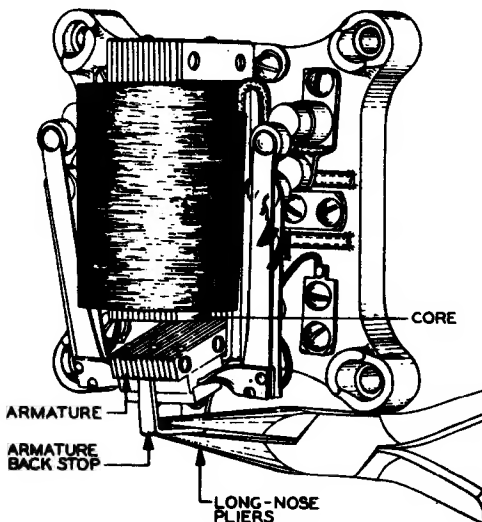

Fig. 10 - Method of Adjusting Armature Back-stop - Using Long-nose Pliers
(1) If a gauge of conducting material is used, the contacts must be dead while checking gap. Contact gaps and armature air gaps of relays of the type shown in Fig. 10 are corrected by adjusting the armature backstop with the long-nose pliers.